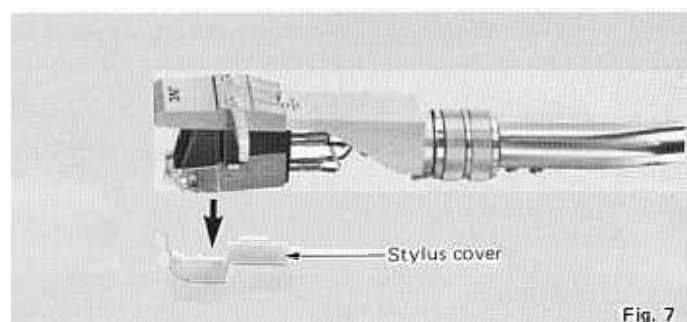

Fig. 7
5. Remove the stylus cover from the stylus. (See Fig. 7)